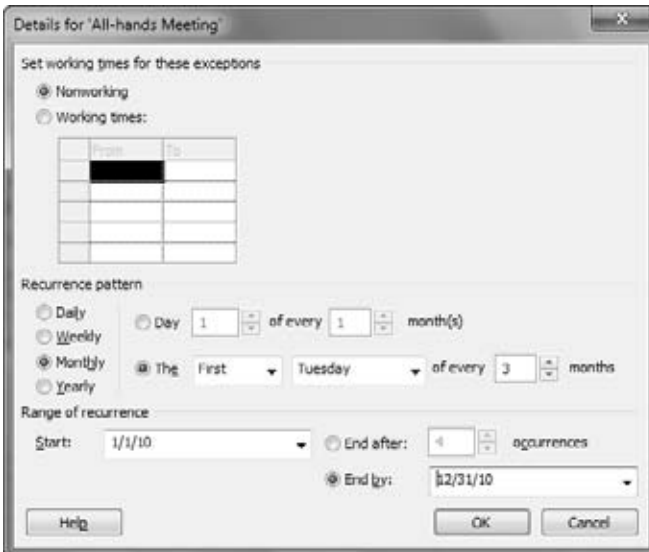

Figure 10-11:
4. In the “Recurrence pattern” section, select the option for the frequency, as demonstrated in Figure 10-11.